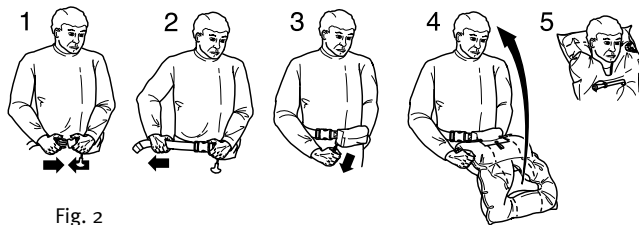

Fig. 2
- 2) Put the AirForce® Pouch PFD on just like a standard waist belt pack, and fasten the front buckle. Adjust waist belt to a snug, comfortable fit, and secure the belt's loose end in the belt loop. Do not wear AirForce® PFDs under clothing, as the inflation could be restricted, or you could be injured (Fig. 2, Steps 1 and 2).
## Deployment and Use of the PFD (Fig. 2, Steps 3, 4 & 5).